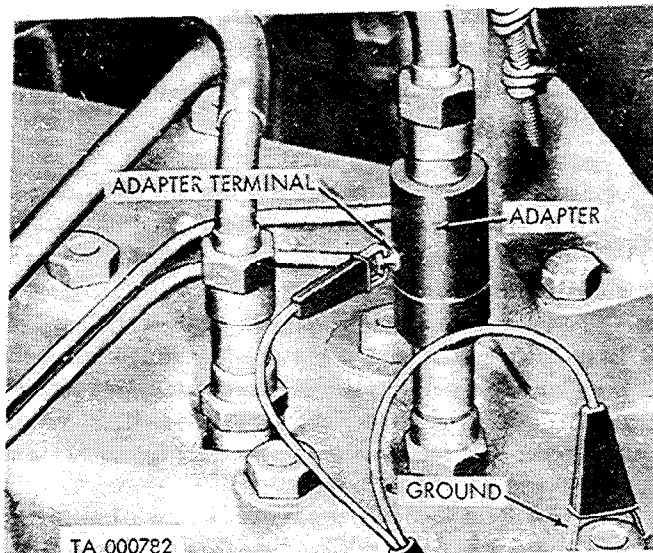

Figure 2-15. Timing light adapter installed.
b. *Connect Timing Light.* Remove the spark plug cable from the No. 1 spark plug and install the timing light adapter (A, fig. 2-9) on the threaded end of the spark plug. Connect the spark plug cable to the adapter. If the timing light is of the two-lead type attach one of the leads to the adapter terminal (fig. 2-15) and the other lead to one of the cylinder head cap screws for a ground.